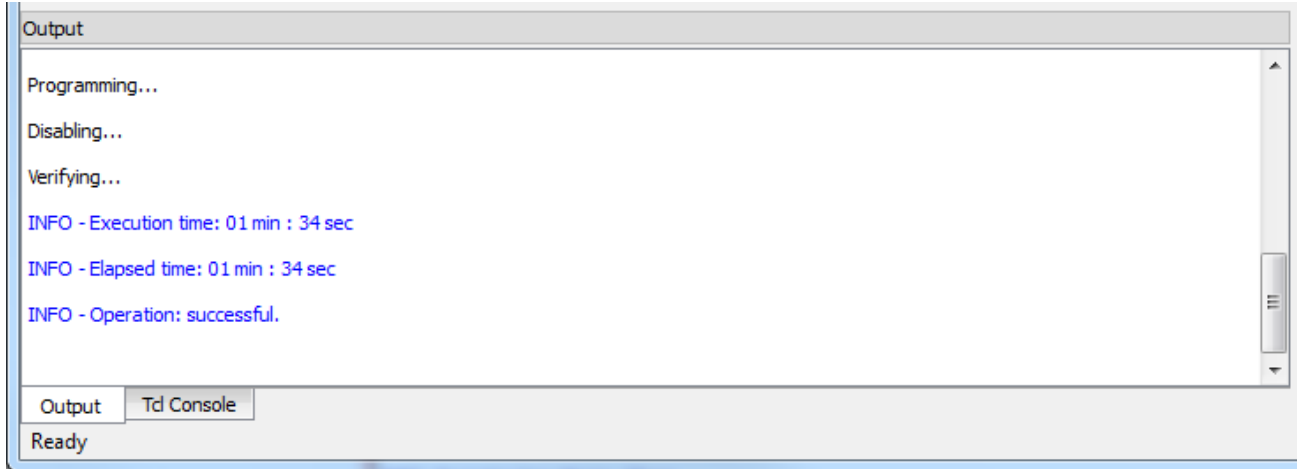

Figure 7.4. Output Console
4. Successful programming is displayed in the programmer output console as shown in Figure 7.4.